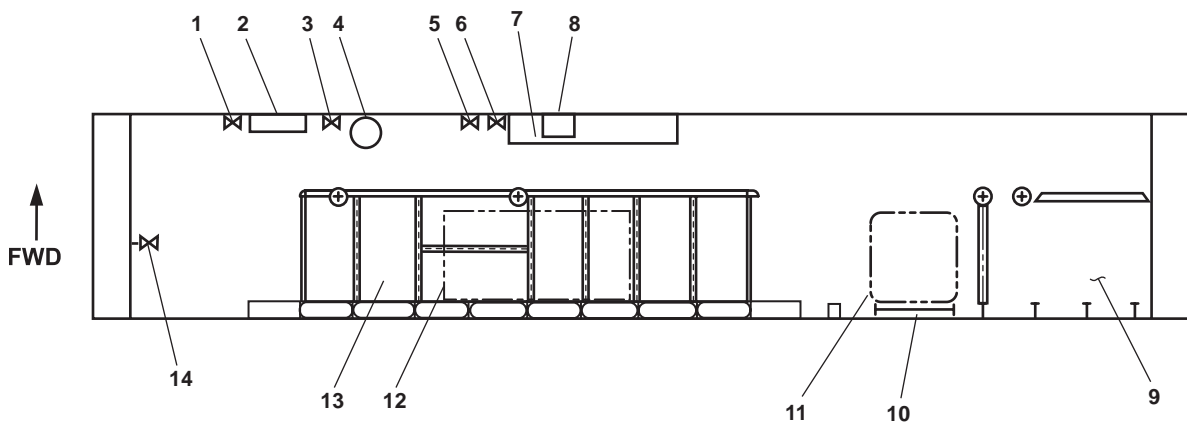

Figure 3. Towing Gear Locker
1. PW-10, POT. WTR. TK. PORT. DR (figure 3, item 1). This valve permits draining of the port potable water tank into the bilge.
2. Eductor valves (figure 3, item 2). The eductor valves control the operation of the eductor for this space.
3. PW-11, POT. WTR. TK. STBD. DR. (figure 3, item 3). This shutoff valve permits draining of the starboard potable water tank into the bilge.
4. General alarm bell (figure 3, item 4). The alarm bell signals various emergency conditions on the vessel.
5. ST-4, BLST TK 2P SNDG. (figure 3, item 5). This valve permits sounding of the port ballast tank.
6. ST-3, BLST TK 2P SNDG. (figure 3, item 6). This valve permits sounding of the starboard ballast tank.
7. Shelving (figure 3, item 7). Shelving provides stowage for towing gear and equipment.
8. Space heater (figure 3, item 8). The space heater provides heat to the towing gear locker.
9. Mooring line stowage bin (figure 3, item 9). The mooring line stowage bin provides storage for mooring lines.
10. Vertical ladder (figure 3, item 10). This ladder provides access to the main deck.
11. Raised access hatch (figure 3, item 11). The raised access hatch provides access to the main deck for personnel.
12. Raised access hatch (figure 3, item 12). The raised access hatch provides access to the towing gear stowage bin for stowing and retrieving gear.
13. Towing gear stowage bin (figure 3, item 13). The towing gear stowage bin provides storage for towing gear and the shore power cable.
14. BB-11, OVBD. DISCH. BILGE EDUC. (figure 3, item 14). This valve secures the overboard flow from the eductor.